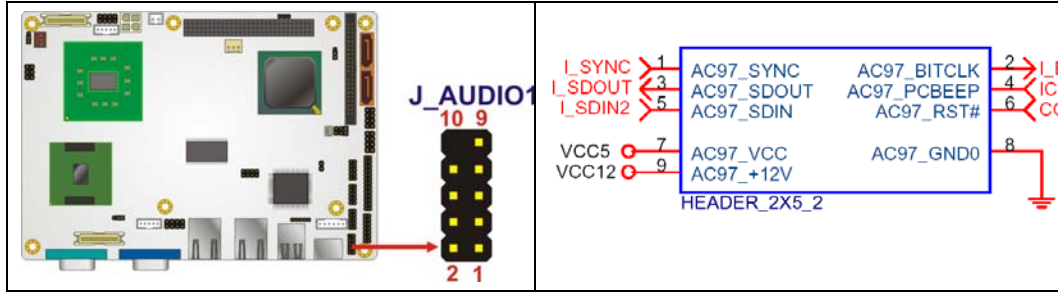

Figure 4-6: Audio Connector Location (9-pin)
- CN Location:** See **Figure 4-6**